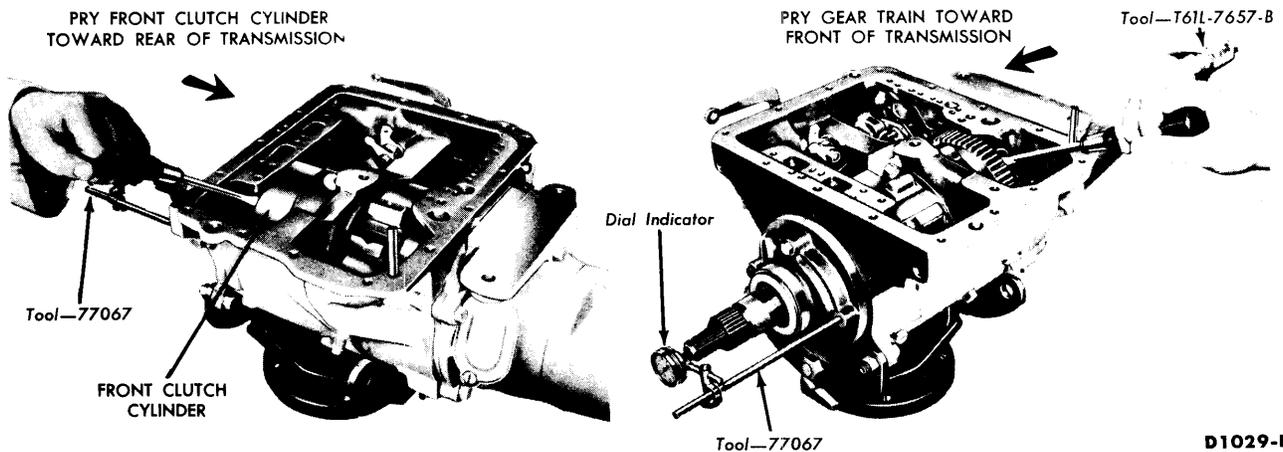

FIG. 2—Transmission End Play Check
2. Mount the dial indicator support tool in the front pump bolt hole. Mount a dial indicator on the support so that the contact rests on the end of the input shaft as shown in Fig. 2.
4. Pry the front clutch cylinder to the rear of the transmission with a large screwdriver (Fig. 2). Set the dial indicator to zero while maintaining a slight pressure on the screwdriver.
5. Remove the screwdriver and pry the units toward the front of the transmission by inserting the screwdriver between the large internal gear and the transmission case (Fig. 2).